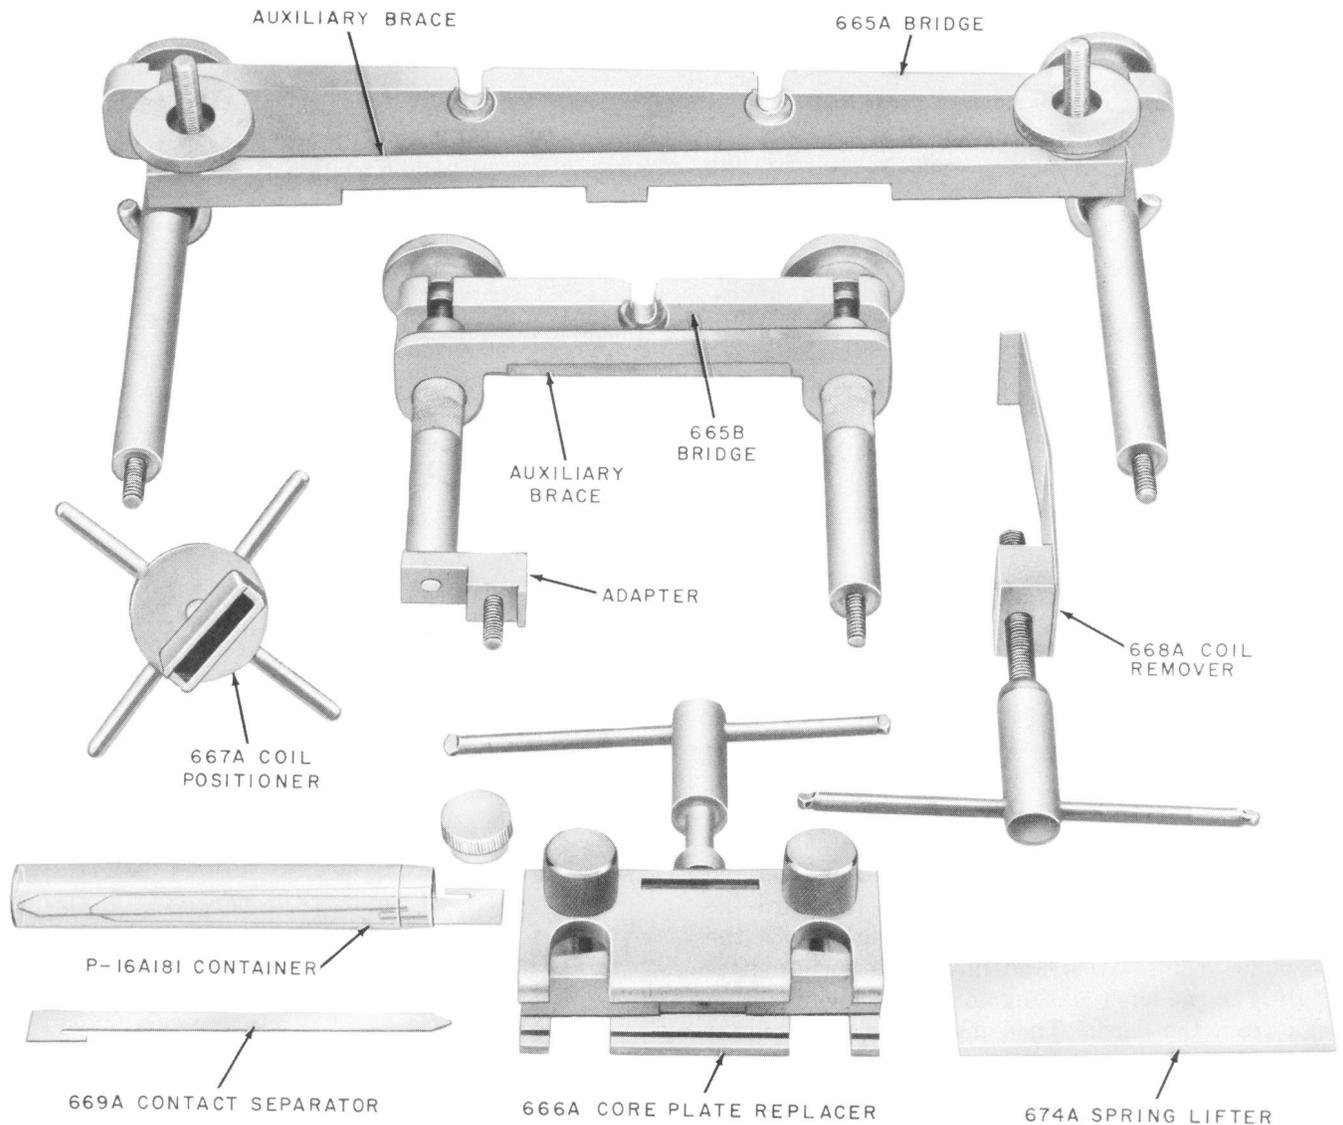

Fig. 3—Tools Included in 1012A Tool Kit
3.02 Figure 3 shows the tools comprising the 1012A tool kit used in replacing parts of